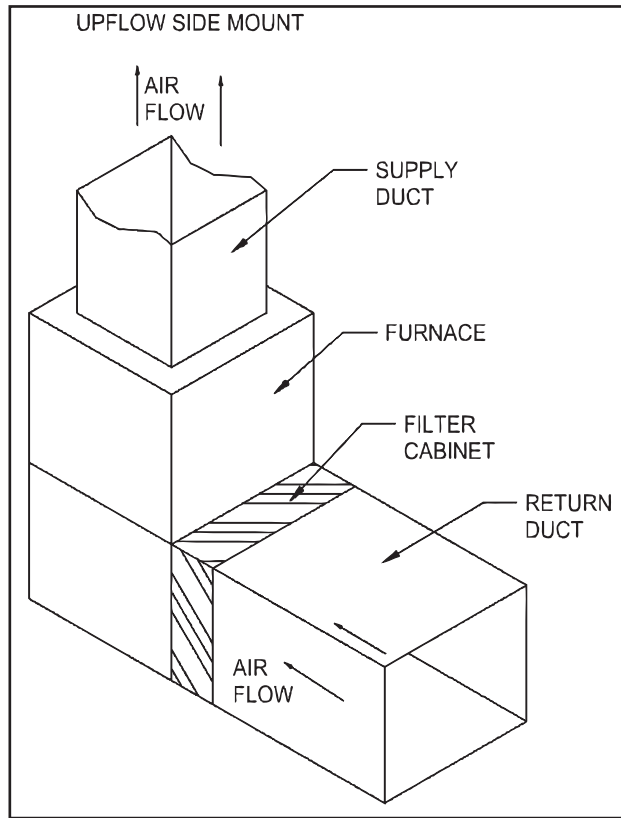

Figure 1
1. Refer to the typical mounting positions (Figures 1 to 6) for proper placement of the filter cabinet.
4. Position cabinet so access panel is available for easy media filter replacement. The access panel MUST be accessible to remove and replace the media filter. (**NOTE:** Minimum of twenty-six (26) inches for front clearance).
5. Position the filter cabinet onto return air side of the appliance (Figures 1 to 6). Duct transitions may be required to properly mount the filter cabinet. (**NOTE:** The FCRA-2000 is reversible and may be installed on either side of the appliance).